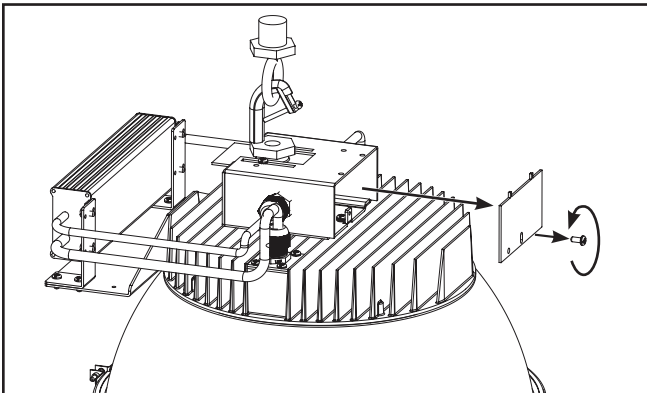

Figure 4.
- 8. Remove the screw on the junction box cover on the front of the luminaire and remove junction box cover. (Figure 4)